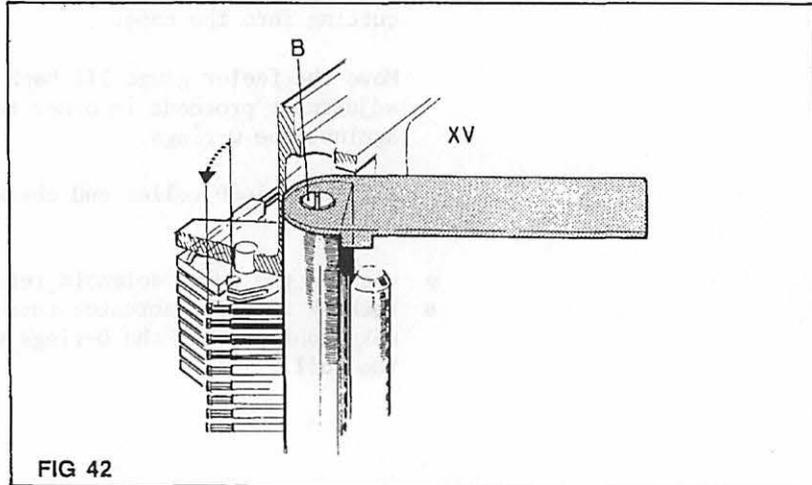

FIG 42
- put the special tool XV on the punch pin guide and loosen the screw B about 1mm to provide guidance for the tool. See FIG 42.